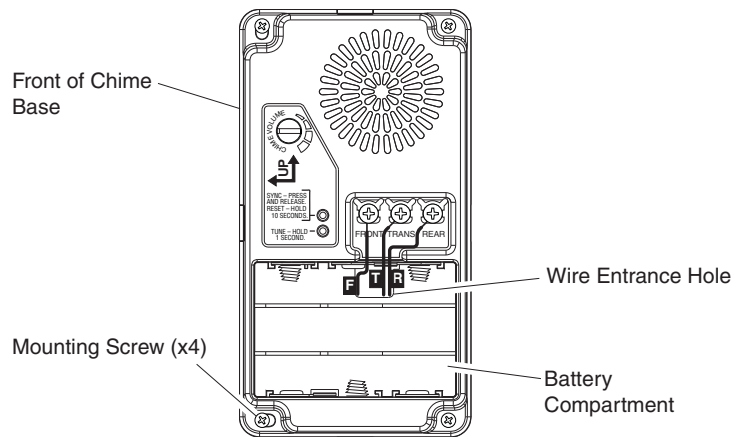

Figure 11
- Use all 4 chime mounting holes as a template (see Figure 11).